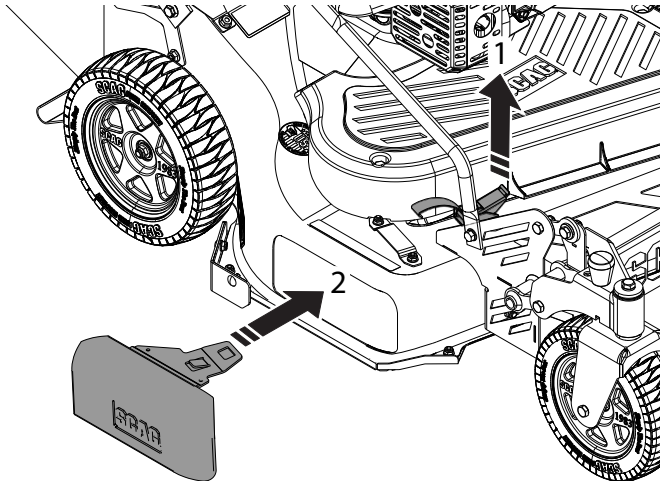

Figure 6-9. Discharge Block Off Plate
5. Reinstall the grass collection baffles from the cutter deck. See Figure 6-9.